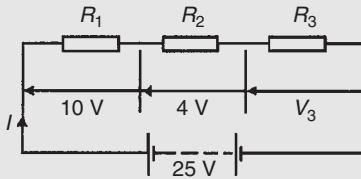

Figure 5.3
**Problem 2.** For the circuit shown in Fig. 5.3, determine the p.d. across resistor  $R_3$ . If the total resistance of the circuit is  $100\Omega$ , determine the current flowing through resistor  $R_1$ . Find also the value of resistor  $R_2$ .